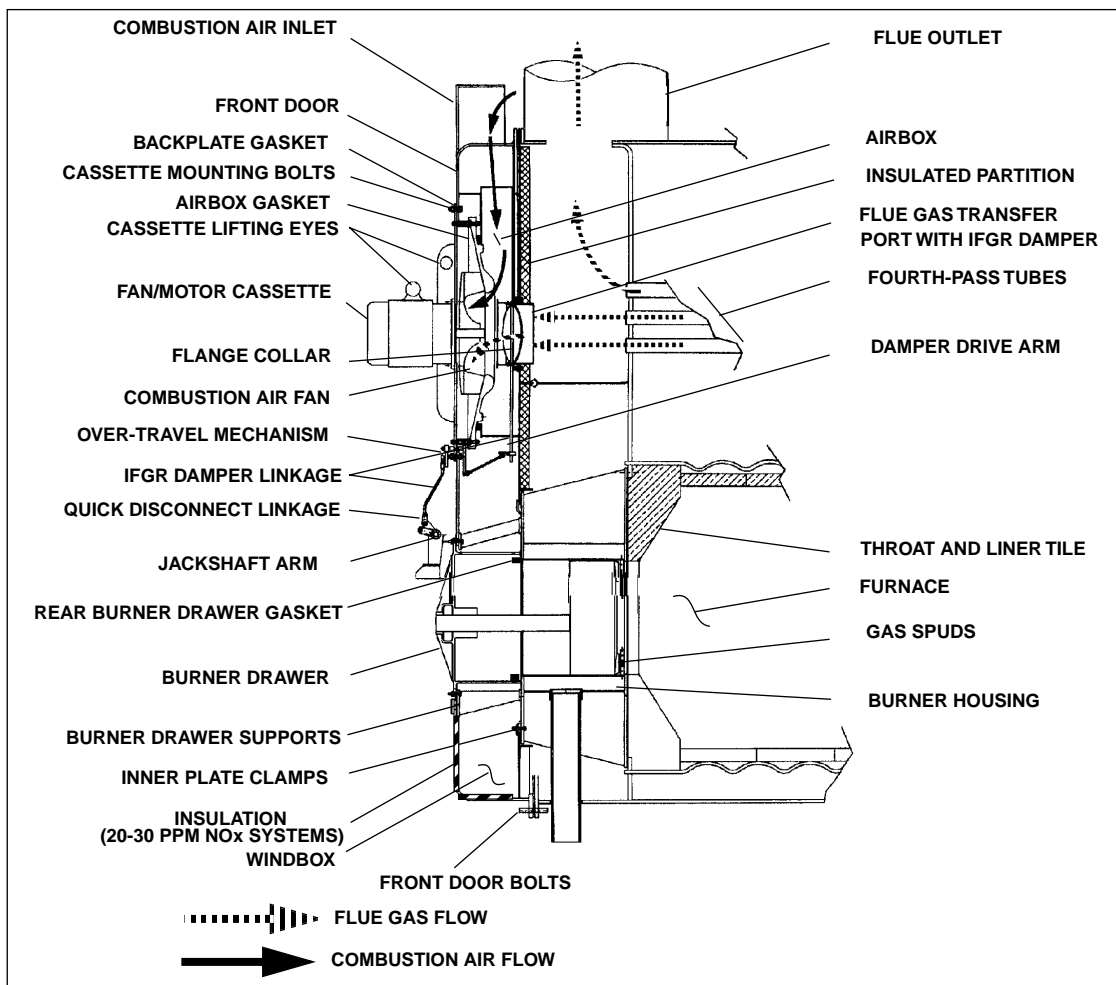

Figure: 1-14 Induced Flue Gas Recirculation System, General Arrangement
1. Flue Gas Transfer Port, IFGR Damper, and Flange Collar (Figure 1-14). The flue gas transfer port is a tube that allows the flue gases to travel from the exit of the fourth-pass tubes to the entrance of the combustion air fan.
3. Over-Travel Mechanism (Figures 1-14 and 1-15). The over-travel mechanism has two functions. It allows the linkage to pass through the front door, and it allows jackshaft rotation to exceed (over travel) IFGR linkage
6. Burner Drawer (Figure 1-14). The gas spudding pattern for the IFGR system may be different than that of a non-IFGR, High-Turndown CB Burner of the same horsepower (HP) model designation.
7. Combustion Air Inlet (Figure 1-14). The combustion air inlets are located at the top of the front door. Air enters from the rear of the air inlet shrouds, which reduces the sound level and captures heat from the boiler and stack flue outlet.
8. Front Door Insulation (Figure 1-14). If NO_x emissions are below 60 PPM, the front door is insulated inside to control temperature build up. The insulation is held in place with wire mesh.